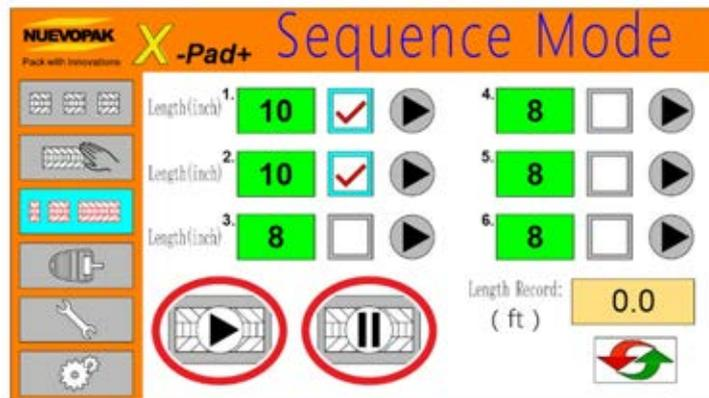

Figure 42 Pause Key - Sequence Mode
3. Select which of the six (6) pre-sets to dispense (refer to Figure 42).